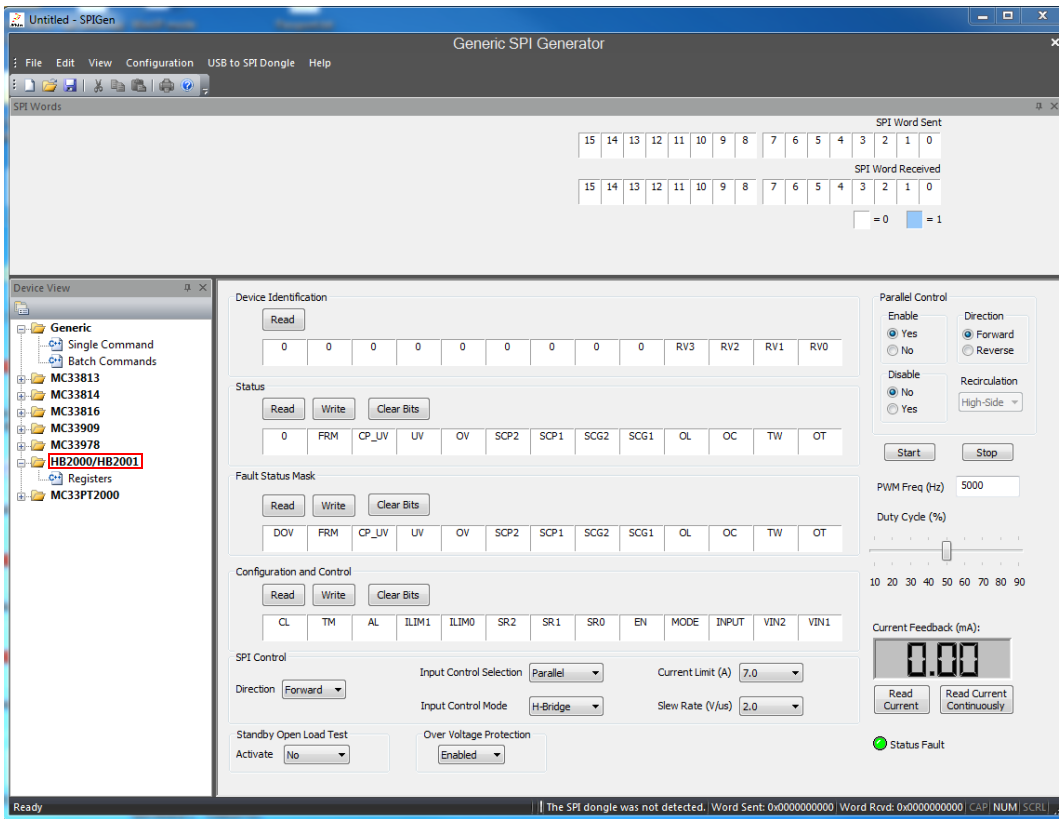

Figure 17. MC33HB2000 SPI window
5. To access the HB2000/HB2001 tab in the SPIGen window, expand the HB2000/HB2001 folder in the device view. Then click on the **Registers** icon (see Figure 17).